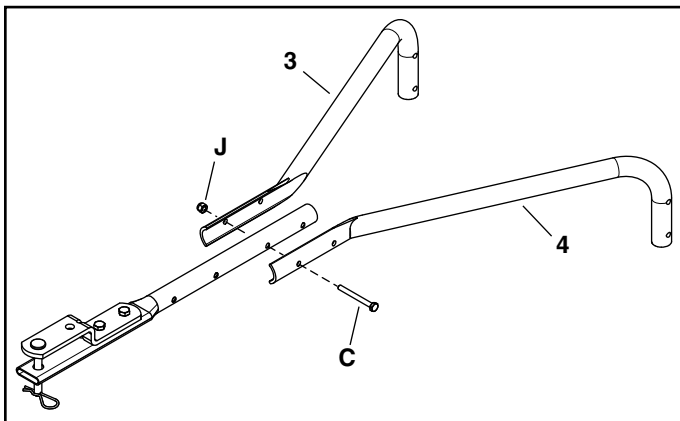

FIGURE 2
STEP 2: (SEE FIGURE 2)
- Attach the hitch support tubes (3), and (4) to the hitch tube using one 1/4" x 2" hex bolt (C) and 1/4" nylock nut (J). **Do not tighten completely.**